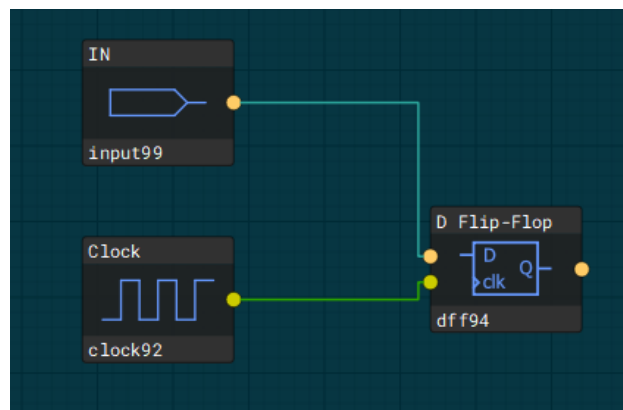

Figure 5. Connection between Macrocell
- User can notice that the Macrocells may have clock and logic port types, which can be distinguished by color, clicking two ports of the same type created the connection between the Macrocell (See Figure 5)